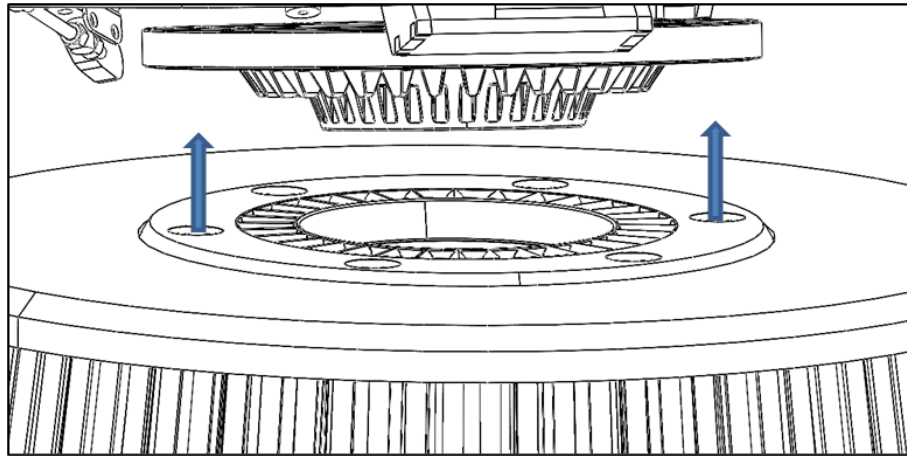

Fig. 3
4. Hold the brush up towards the clutch, the magnets on the brush will be attracted towards the magnetic clutch and slot into place (Fig 3).